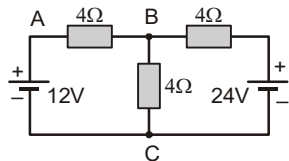

Fig. 1.150
- (A) 8V, 48 Ω (B) 4V, 48 Ω (C) 4V, 24 Ω (D) 8V, 24 Ω
9. In the circuit shown in the fig.1.150, the power consumed in the resistor connected across A– B is